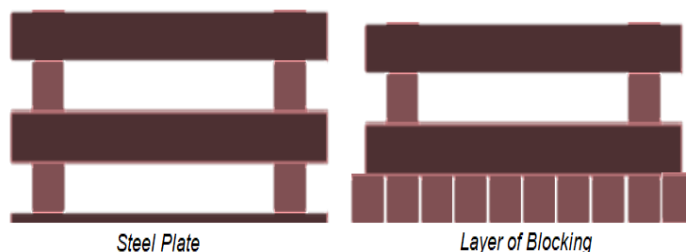

Figure 1
- 3) Lincoln stack - stack the blocking as seen in figure 1, make sure the corners overlap by 4 inches to help prevent crush failure.